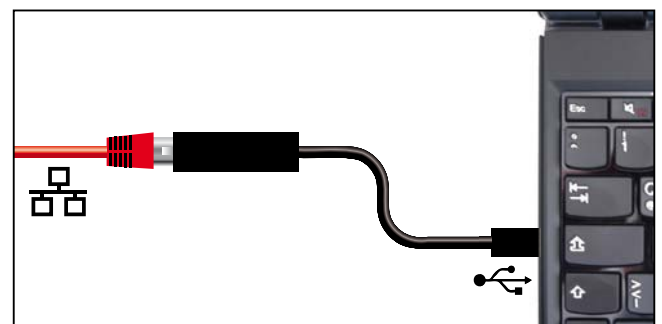

Fig. 7 USB to Ethernet converter
- ▶ USB to Ethernet converter (Fig. 7). Makes it possible to connect the Ethernet connection interface (see page 11) to the USB port of a computer / laptop.